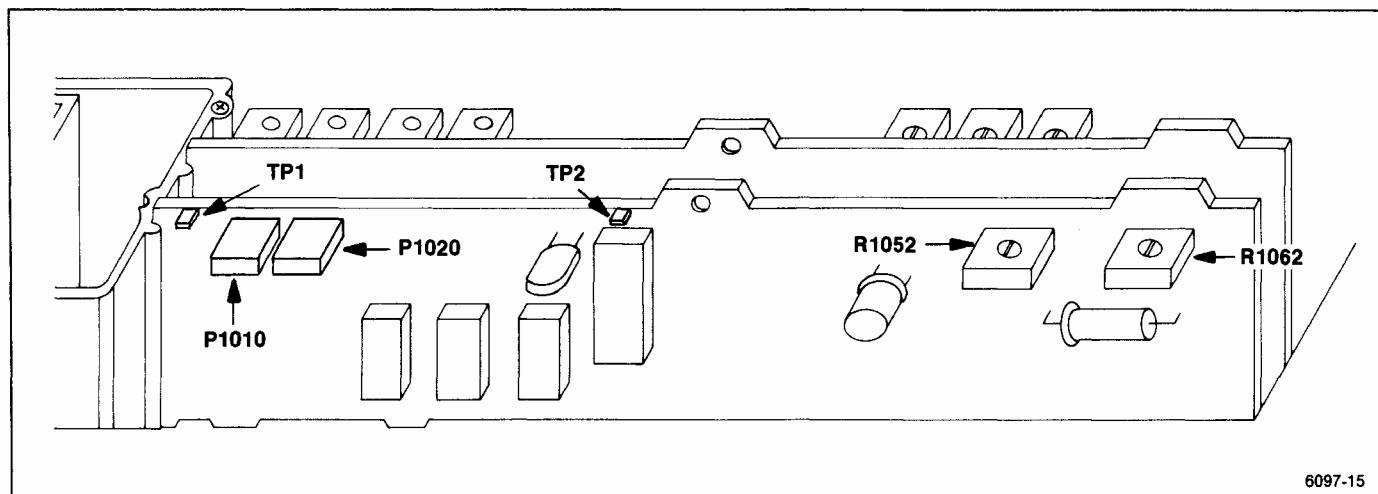

Figure 5-9. Sweep board timing adjustment and test point locations.
d. Adjust Sweep Timing, R1062 (see Figure 5-9) for 1 marker per division. (Use Horizontal Position adjustment to align markers with graticule lines.)
- (1) Disconnect the signal from the RF INPUT.
- (2) Press <SHIFT> RESET.
- (3) Adjust Dot Position R1052 on the Sweep board to position the dot marker over the start spur. See Figure 5-9.